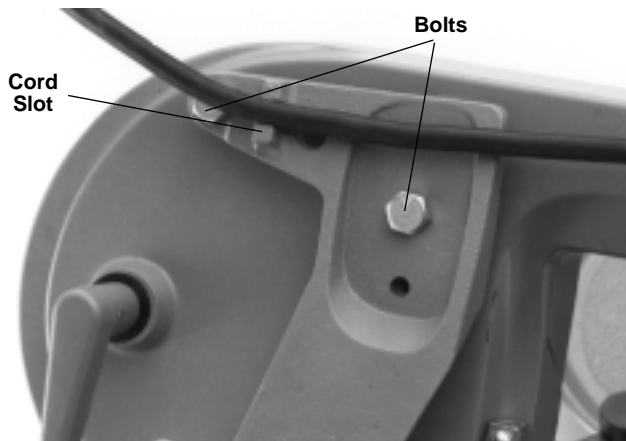

Figure 4
2. Position vise mounting bracket to band saw (Figure 4) and secure with two hex head bolts furnished with 32V Vise. (Torque: 40 to 50 in. lbs.)
4. Position power cord to slot as shown in Figure 4.